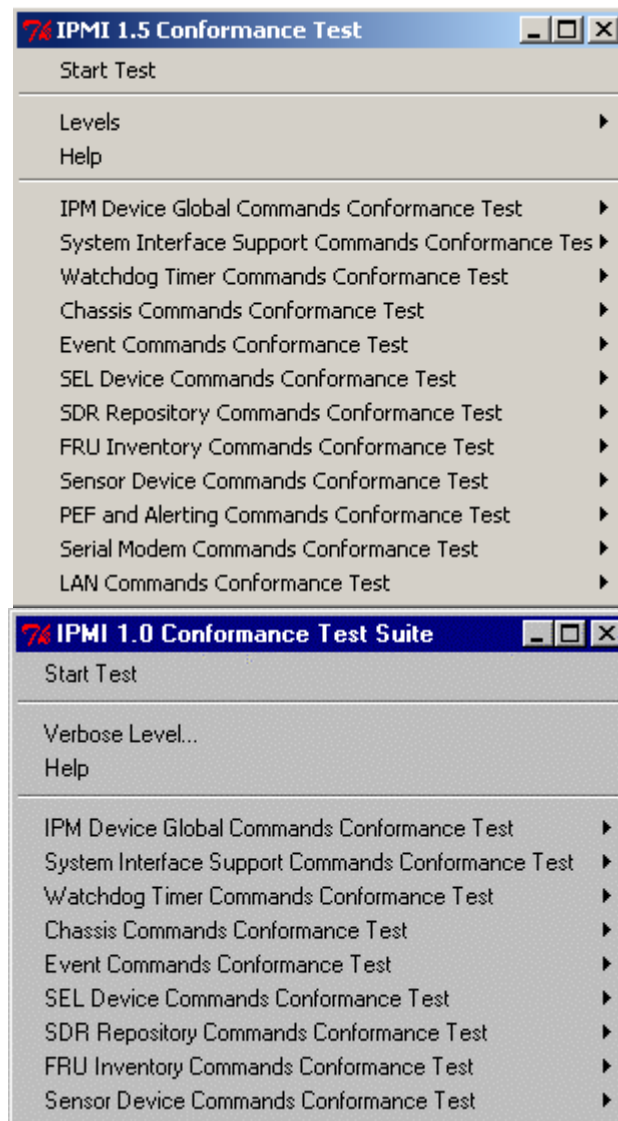

Figure 5-2. IPMI 1.0/1.5- Conformance Test Suite Drop-down Menu
2. Select IPMI 1.0/1.5 Conformance Test Suite. The IPMI Conformance Test Suite drop-down menu appears. Figure 5-2 shows the drop-down menu: